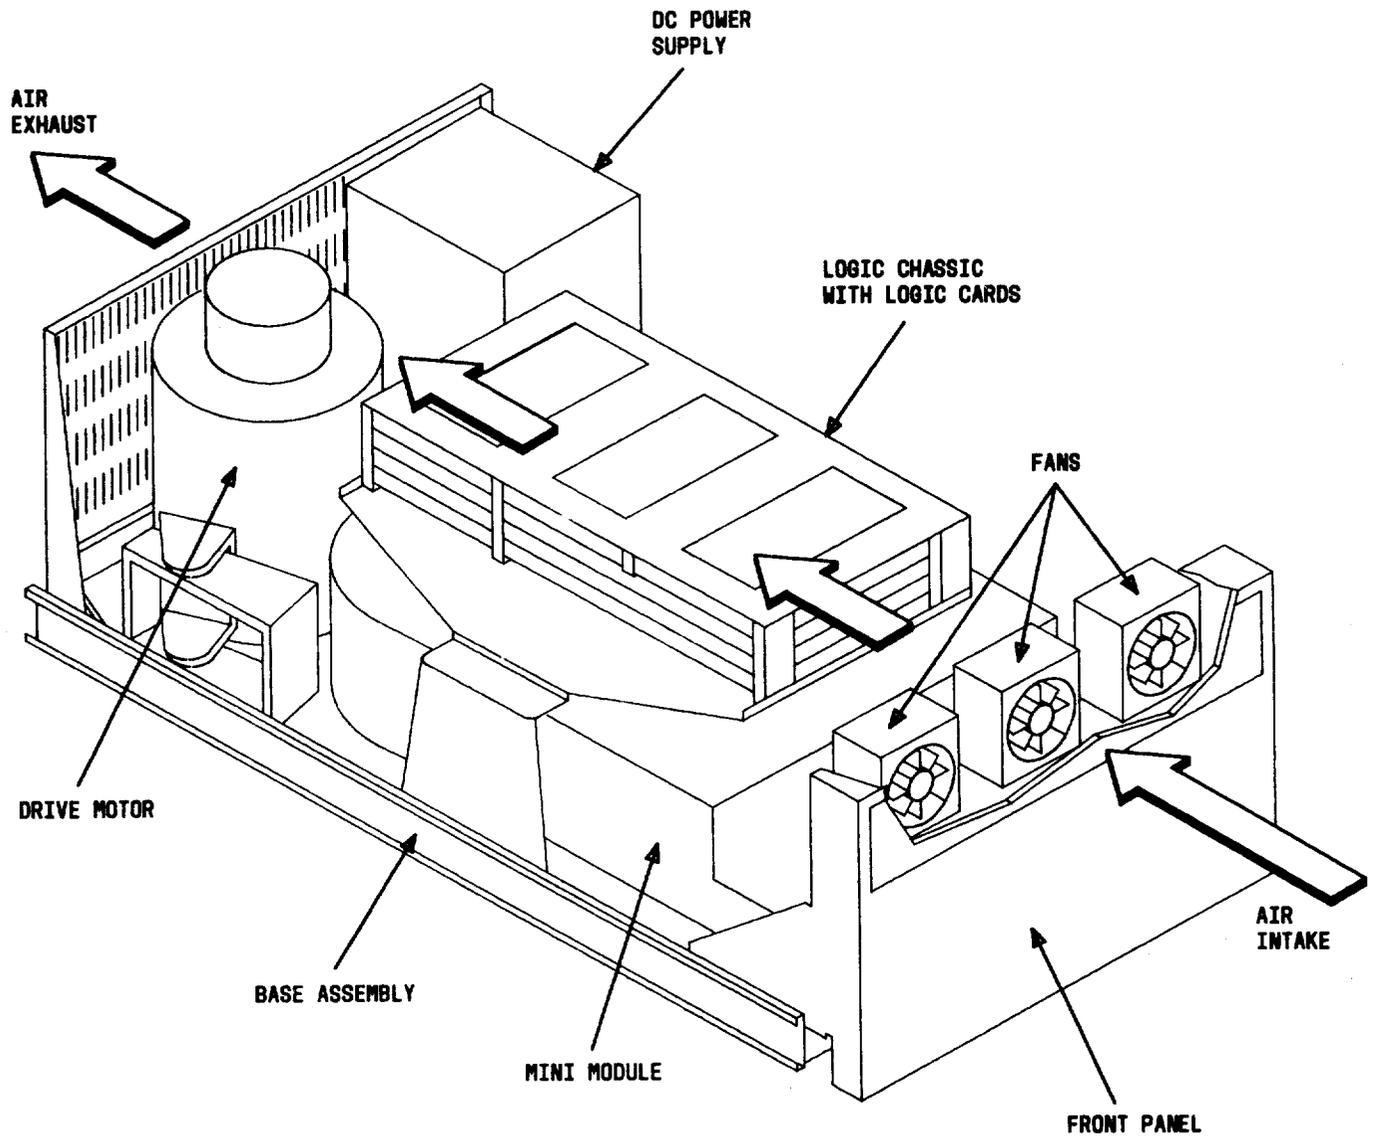

Fig. 4—Disk Drive Major Assemblies
2.06 The five major assemblies that make up a disk drive are the mini-module assembly, the frame assembly, the logic chassis, the power supply, and the front panel. See Fig. 4.